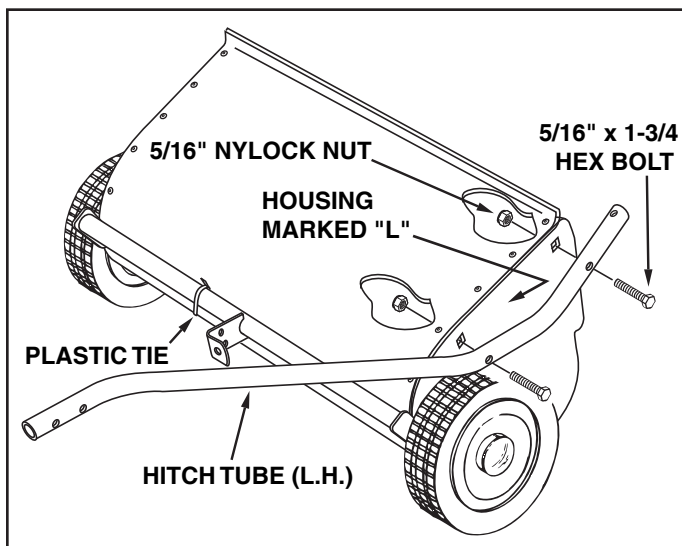
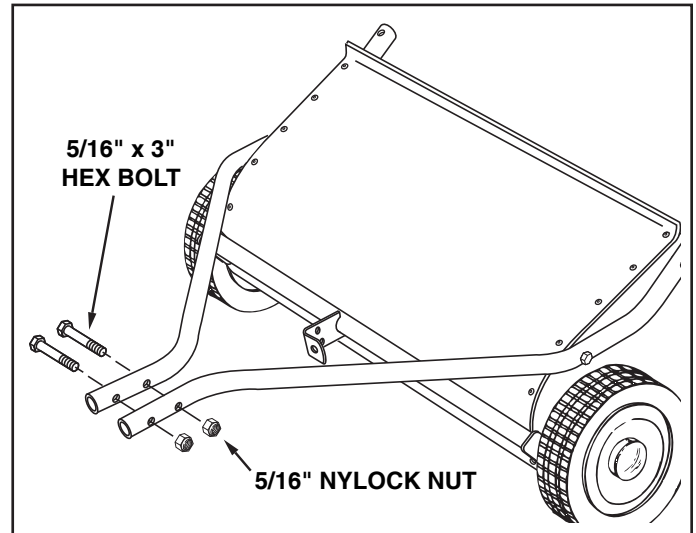
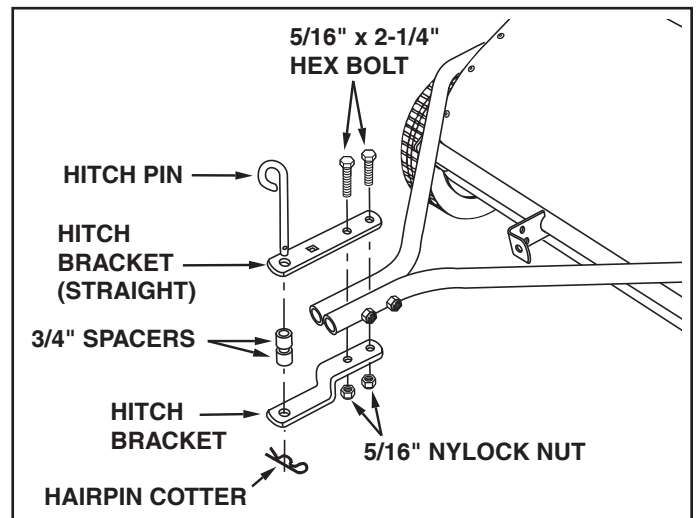

FIGURE 1
FIGURE 2
FIGURE 3
- (1) 3/8" Open End or Box End Wrench
- (2) 1/2" Open End or Box End Wrench
- The hitch tubes are stamped with a "77L" for the left tube and a "76R" for the right tube. The sweeper housing is marked with an "L" on the left side and an "R" on the right side. See figure 1.
- Hold the left hitch tube against the left side of the sweeper so that the "77L" on the tube faces away from the sweeper. Attach the hitch tube using two 5/16" x 1-3/4" hex bolts and 5/16" nylock nuts. Repeat for the right hitch tube, but with the "76R" facing in toward the right side of the sweeper. **Do not tighten yet.** See figure 1.
- Remove the plastic tie that fastens the height adjustment tube to the front of the sweeper housing. See figure 1.
- Fasten the hitch tubes together using two 5/16" x 3" hex bolts and 5/16" nylock nuts. **Do not tighten yet.** See figure 2.
- FOR TRACTOR HITCHES LOWER THAN 10". Place the bent hitch bracket underneath the hitch tubes and the straight hitch bracket on top of the hitch tubes. Insert two 5/16" x 2-1/4" hex bolts through the brackets, with the rear hex bolt between the cross bolts in the hitch tubes. Secure the hex bolts with two 5/16" nylock nuts. See figure 3. **Do not tighten yet.**
- Assemble hitch pin, the two large spacers and the hairpin cotter to the hitch brackets. See figure 3.
- Tighten** the four bolts in figure 1 that fasten the hitch tubes to the sweeper housing. Next, **tighten** the two bolts in figure 2 that fasten the ends of the hitch tubes together. Finally, **tighten** the two bolts in figure 3 or 4 that fasten the hitch brackets to the hitch tubes.